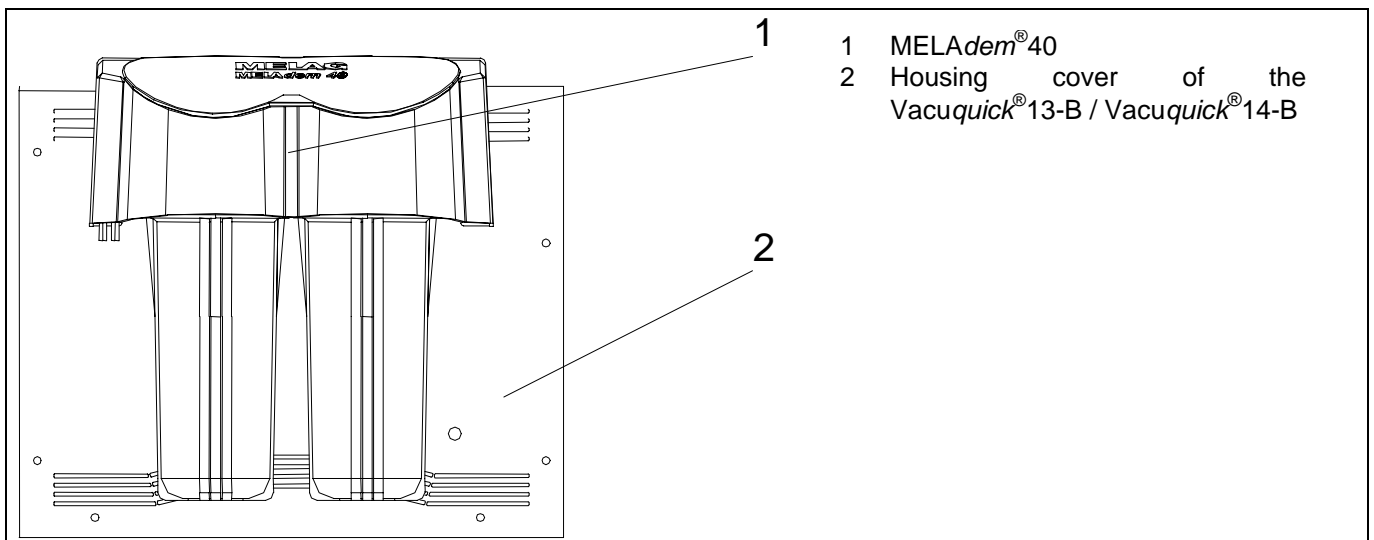

Figure 9: Correct position of the MELAdem® 40 to the Vacuquick® 13-B / Vacuquick® 14-B
7. Hang in the MELAdem[®]40 vertically from above, and slide it downward, until the housing of the MELAdem[®]40 locks into the mounting fixtures. See Figure 9 for the final position.